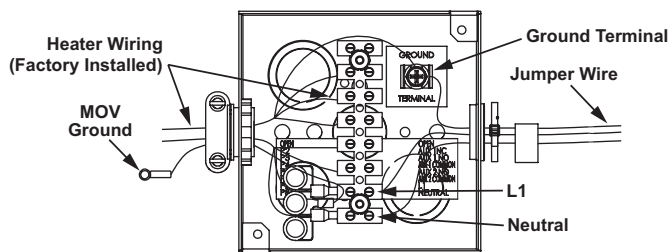

Figure 56
The 120 VAC hot wire from the power supply must connect to the black jumper wire or the "L1" terminal block location in the junction box and the 120 VAC neutral wire must connect to the white jumper wire or the "Neutral" terminal block location in the junction box for correct polarity. See Figure 56.
3. Connect the 120VAC hot wire from the power supply to the black jumper wire or the terminal block location marked "L1" inside of the junction box located on top of the water heater. If the black jumper wire is used make the connection inside of the junction box with a properly sized wire nut and wrap electrical tape around the wire nut and wire end. See junction box Figure 56 and wiring diagram Figure 67 on page 67.
4. Connect the 120VAC neutral wire from the power supply to the white jumper wire or the terminal block location marked "Neutral" inside of the junction box located on top of the water heater. If the white jumper wire is used, make the connection inside of the junction box with a properly sized wire nut and wrap electrical tape around the wire nut and wire end. See junction box Figure 56 and wiring diagram Figure 67 on page 67.
5. Connect the ground wire from the power supply to the grounding lug inside the junction box. See junction box Figure 56 and Wiring Diagram Figure 67 on page 67.